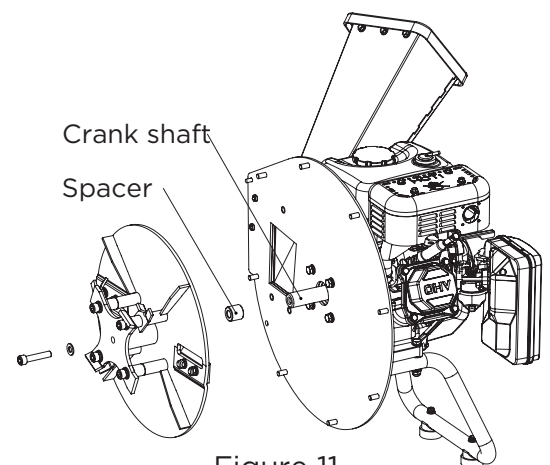

Figure 11
4. Remove the rotor by removing the hardware that secures it to the engine crank shaft. SEE FIGURE 11. NOTE: Do not lose spacer. During reassembly Be sure to place spacer is installed inside rotor.